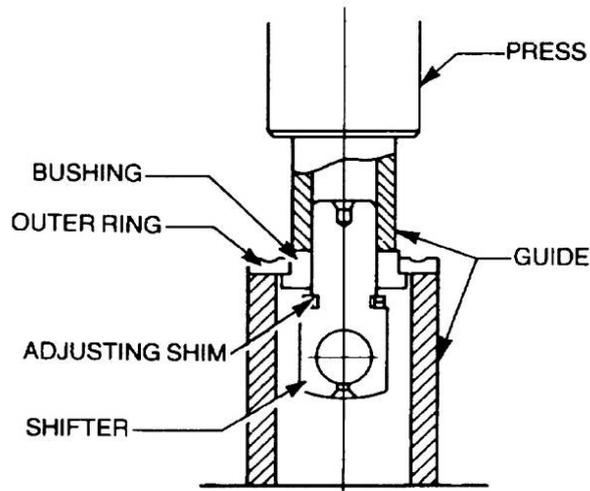

Figure 105 Removing the Bearing Race from the Shifter - Sectional View
- f.** Inspect the shifter/sleeve bearing for wear, pitting, cracks or damage. If replacement is required, press the bearing outer race from the shifter (Figure 105).